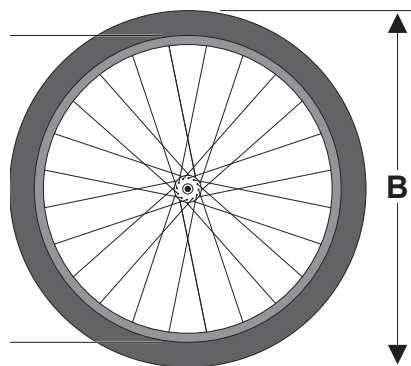
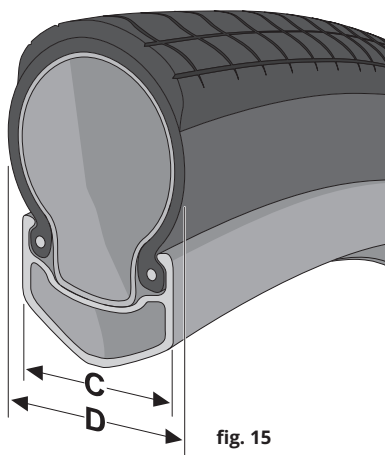

fig. 14
fig. 15
Wheel rims and tires come in a wide range of diameters (fig. 14) and widths (fig. 15). The nominal diameter of the rim (A) must match the nominal diameter of the tire (B), and the width of the rim (C) must be compatible with the width of the tire (D).